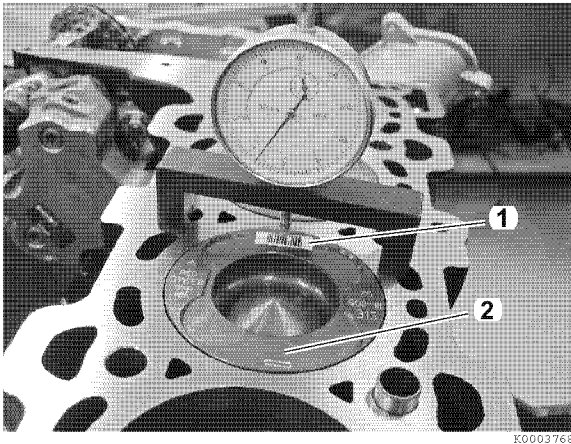

Figure 5-34
- Slide fixture and indicator over cleaned area of piston (1, **Figure 5-34**). Rotate the crankshaft to determine the highest point of piston travel and record the measurement. Repeat the procedure in a second area (2, **Figure 5-34**).